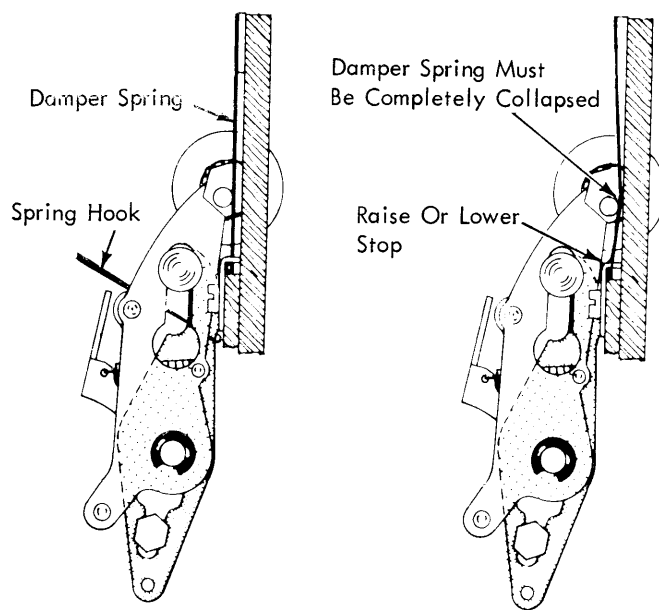

FIGURE 64. Damper Spring Stop
- d. Damper spring stop - with the typehead removed, raise the stop so that when a lower case "M" is half-cycled the damper spring will just collapse against the sideframe. Check by pulling the compensator arm away from the sideframe with a spring hook and then allow it to go back in slowly (Fig. 64).